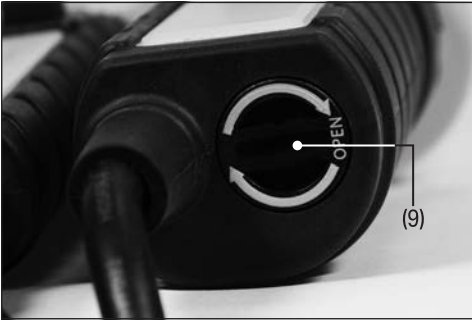

Fig. 1
1. Use a coin to unlock the battery compartment cap (9) by turning it clockwise (Fig. 1).